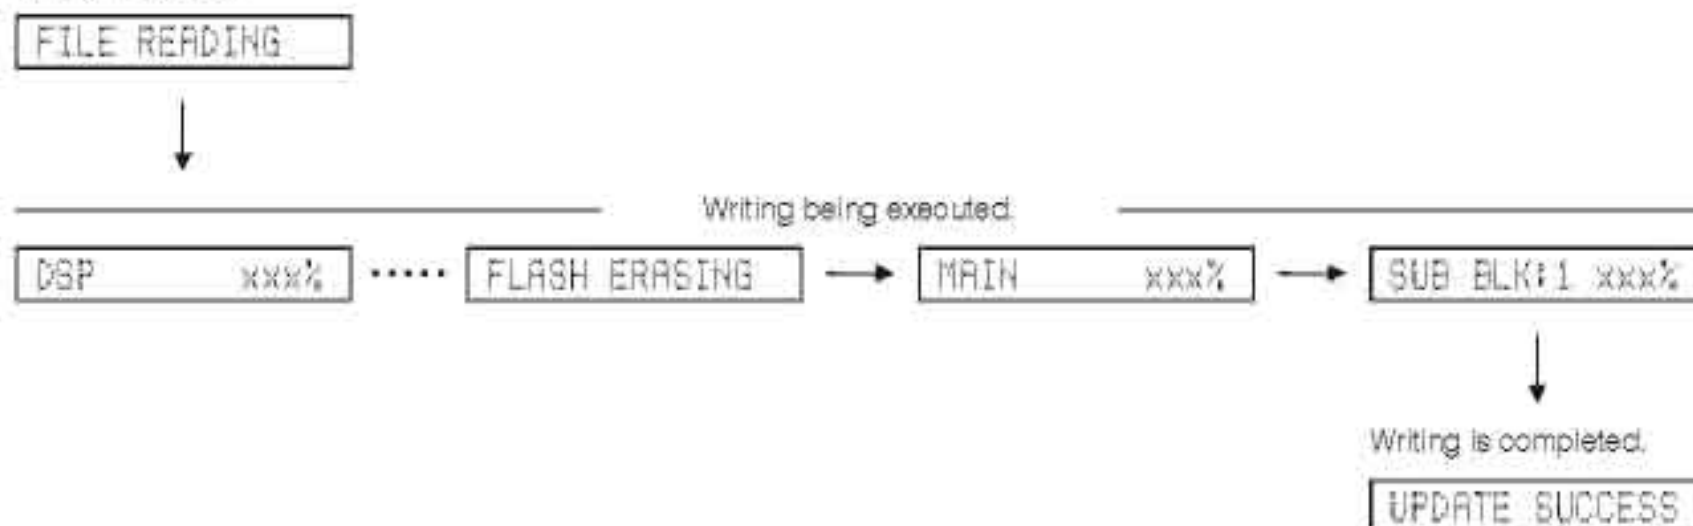

Fig. 3
- Writing of the firmware is started and the screen is displayed as shown below. (Fig. 3)